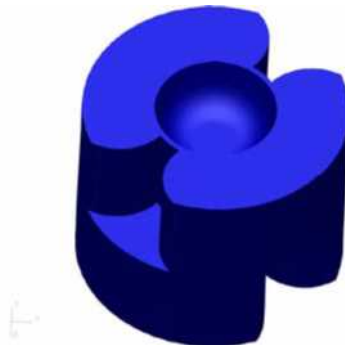

Fig. 12.64-2
- In case it could be necessary to rotate the centrifuge motor and aligned it to the chuck shaft in a different position. This must be done rotating the motor and inserting it into the chuck shaft in the opposite side, to change the position of the plastic joint which makes the coupling between the two shafts (Fig.12.64-2).